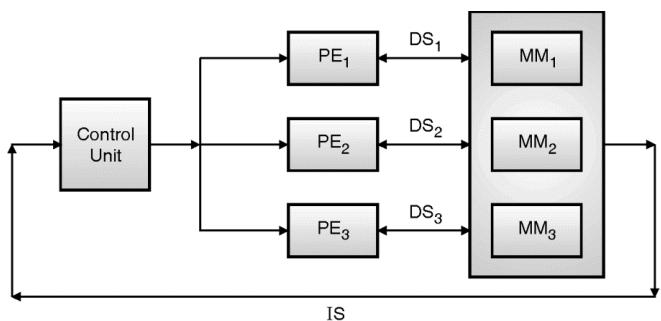

Fig. 10.11.2 : SIMD organization
- Fig. 10.11.2 shows the structure of a SIMD system